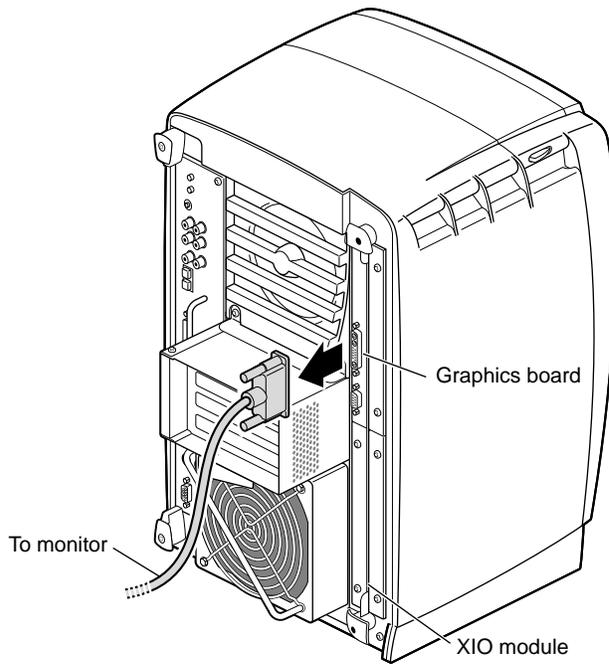

Figure 1-3 Removing the Monitor Cable
5. Remove the monitor cable and other cables from the XIO module. (For illustration purposes, only the monitor cable is shown in Figure 1-3.)
Note: The XIO module is always installed with the graphics board toward the top of the workstation, in the upper left quadrant. See Figure 1-3.